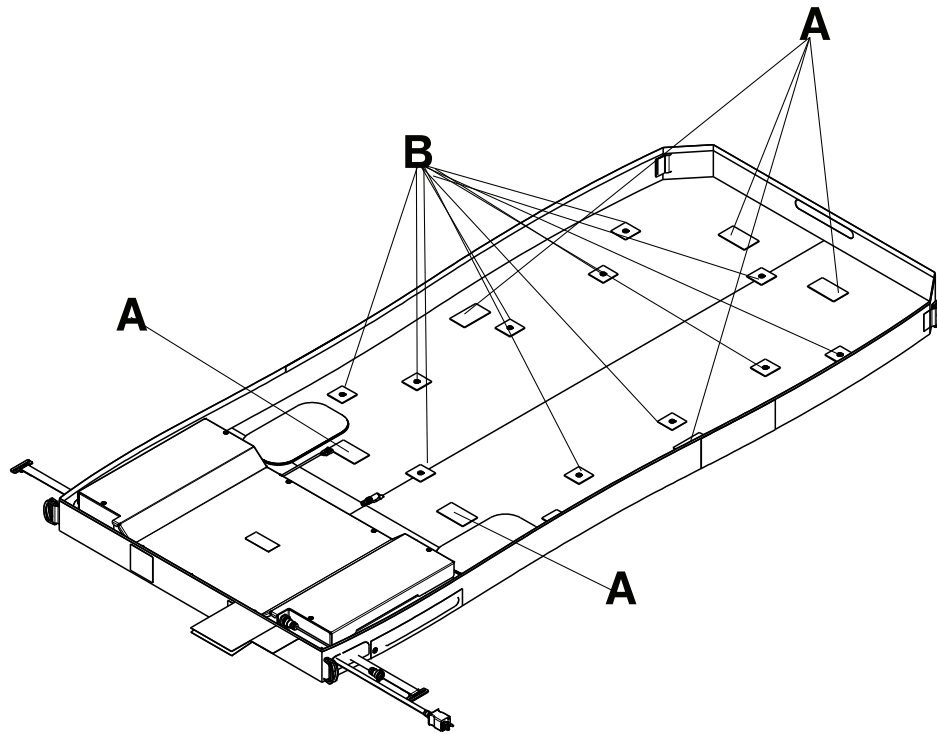

Figure 26 – Pod Velcro® and snap retainers
7. Lift up on the foam crib, reach between the foam crib and the bottom cover to unhook the six **Velcro®** retainers (A) and unsnap the 12 snap retainers (B) (Figure 26). Repeat for the opposite side.